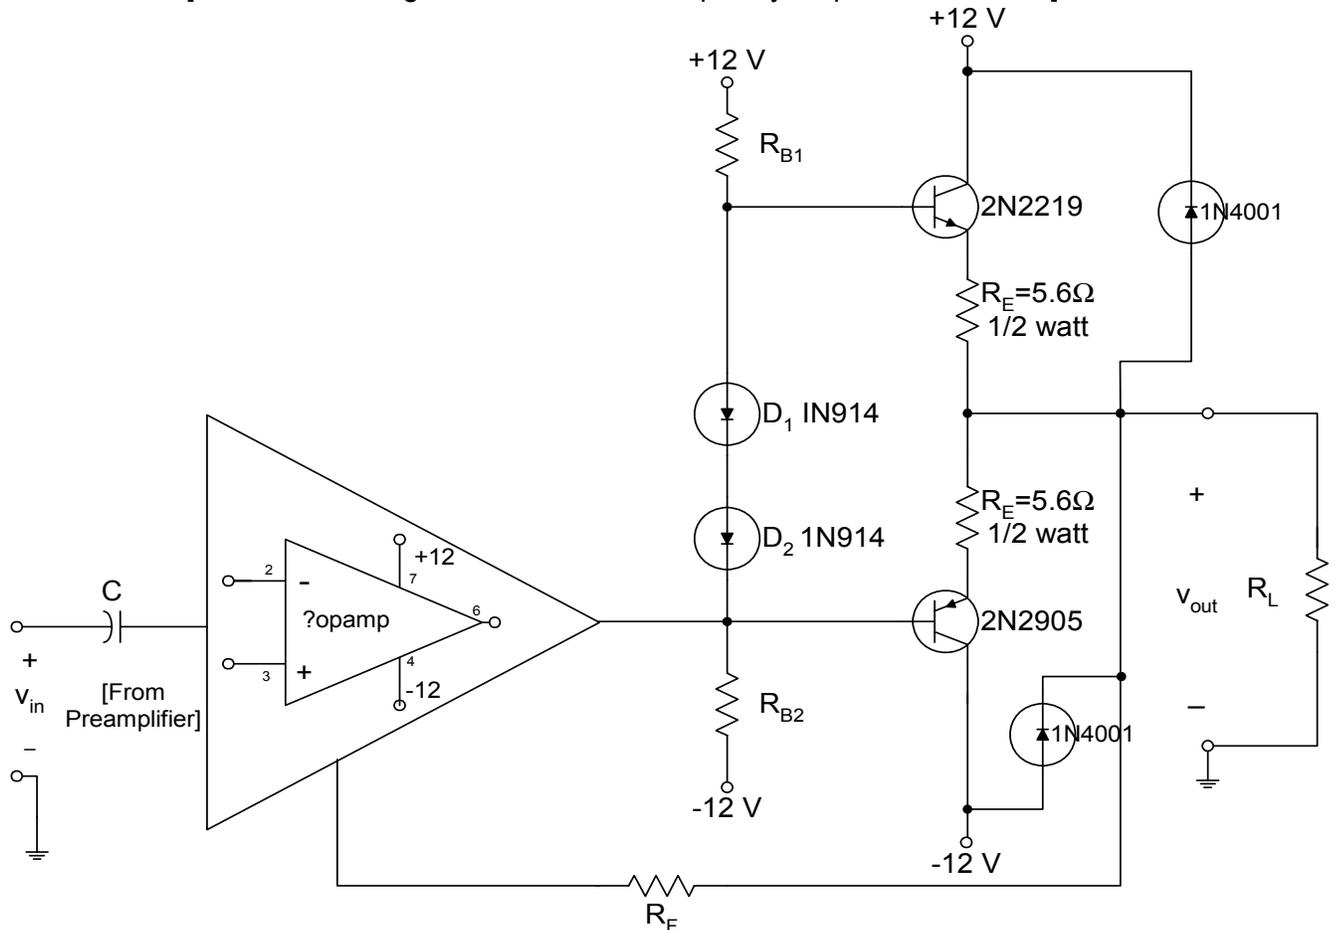

Figure 1: Amplifier circuit for experiment 1.
In this experiment you will build and examine the performance of the dc-coupled amplifier whose schematic outline is given in Figure 1. This amplifier is intended to have a gain of 20 dB with less distortion than that found in the amplifier of experiment 5 of Lab 4.
5. Reconnect the amplifier as originally shown in Figure 1. Observe the maximum clean peak-peak output voltage swing into the  $100\ \Omega$  load at 1000 Hz. Now connect the output of the op-amp to the junction between diodes  $D_1$  and  $D_2$  instead of to the base of the PNP transistor. What difference does this change make in the output voltage swing? **[Q 1.15 Why?]**